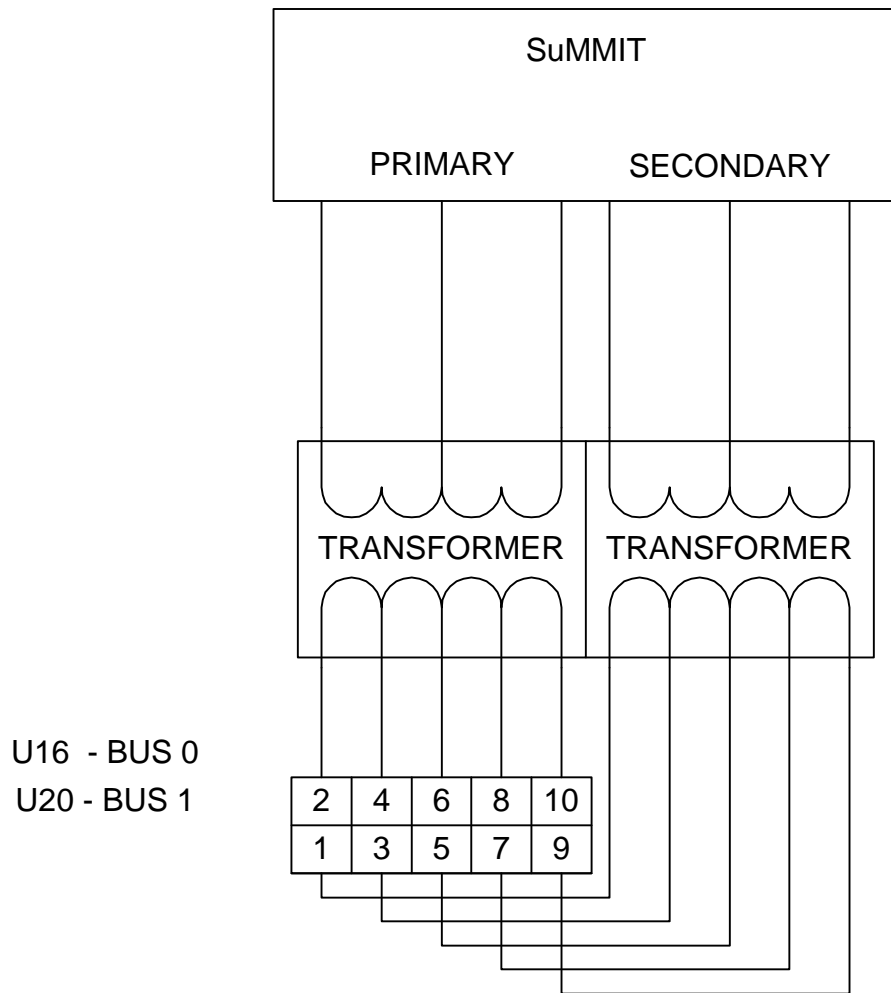

Figure 5: Connecting to the 1553 Buses
4. The user must solder a 75 Ohm Twisted Shielded wire pair to the points shown in Figure 5. The other ends of these wires need to be soldered to 1553 bus connectors.
Figure 5 depicts the connection for the two 1553 buses.